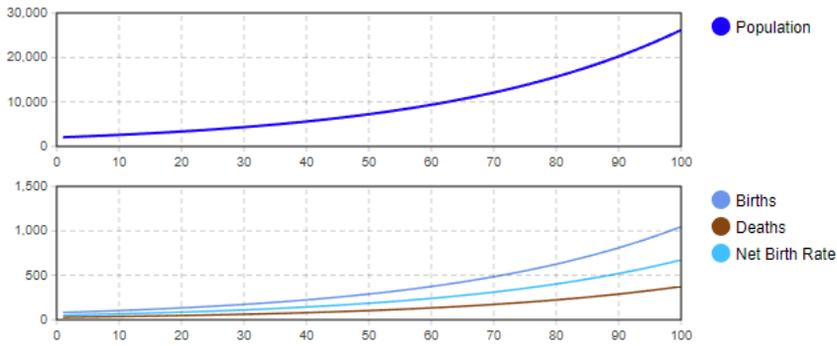

Figure 5.13 Time plots of the key system variables. Exponential growth
24. Ctrl+drag the time plot to create another one below, see Figure 5.13.